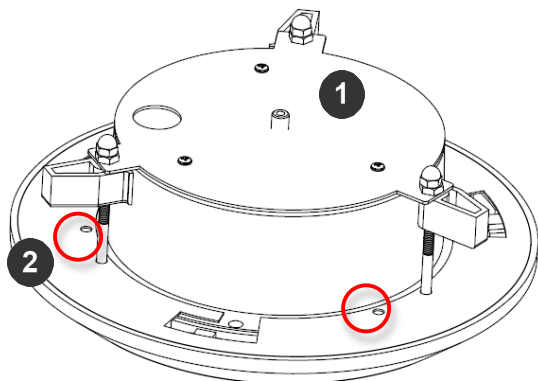

Figure 5: Attach Flange Plate to in-ceiling mount with 3 set screws
3. Attach the Flange Plate to the in-ceiling mount with the 3 set screws as shown in Figure 5.